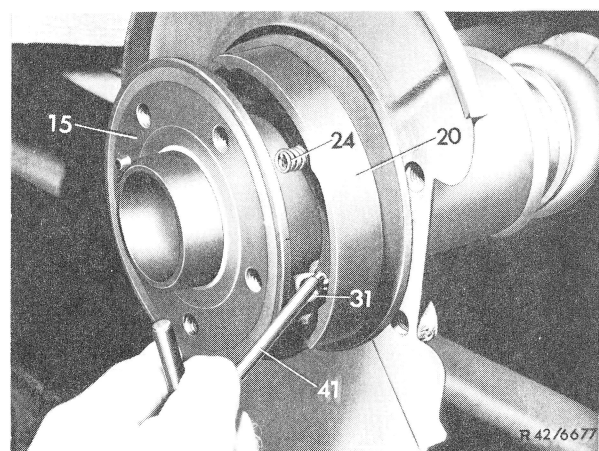

Fig. 9
17 Attach spring (31) with small eye to brake shoes (Fig. 9 and 18).
18 Attach removing and installing tool (41) into large eye of restoring spring (31), then attach restoring spring to other brake shoe (20) (Fig. 9 and 18).